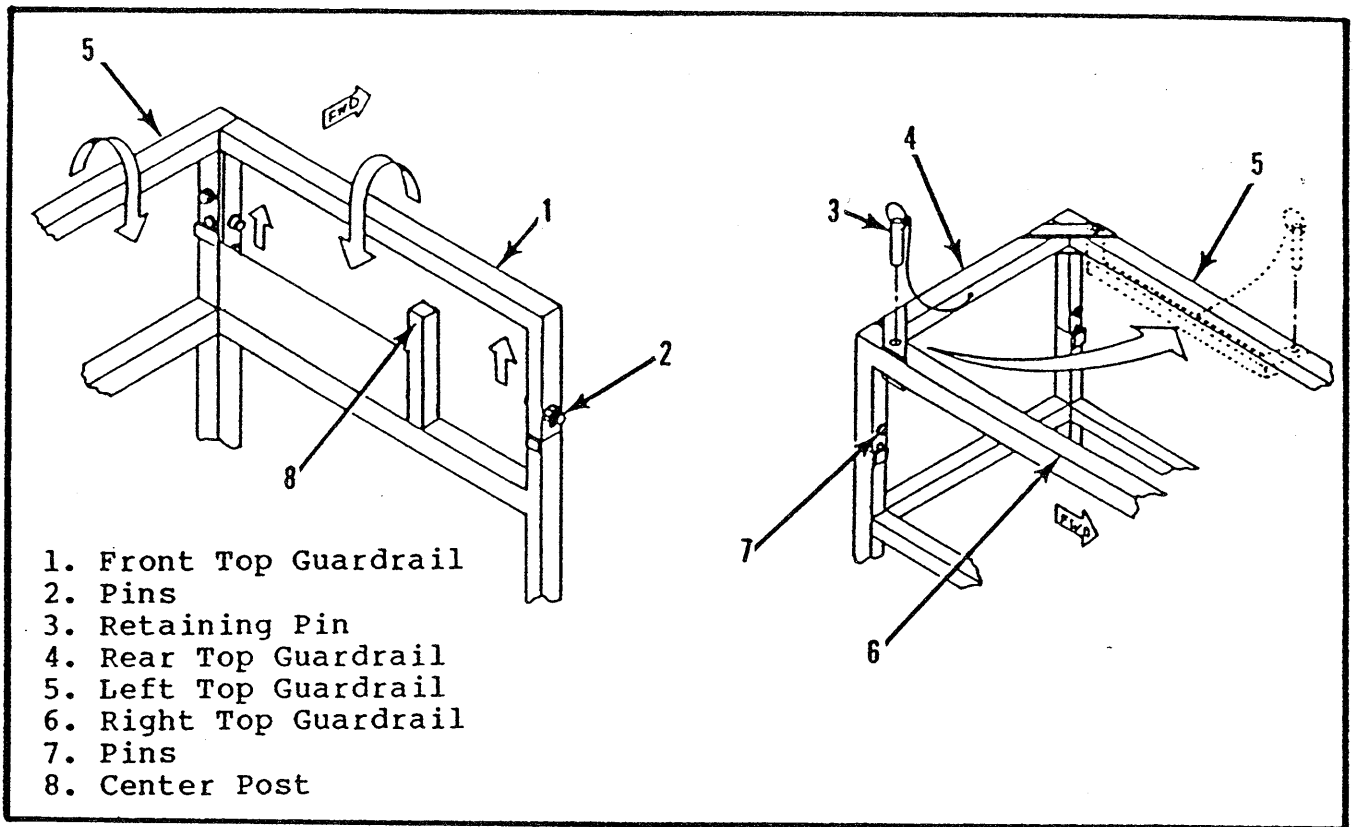

Figure 4-2. Fold Down Guardrails
**4-13. XL-C FOLD DOWN GUARDRAILS (Figure 4-2).**